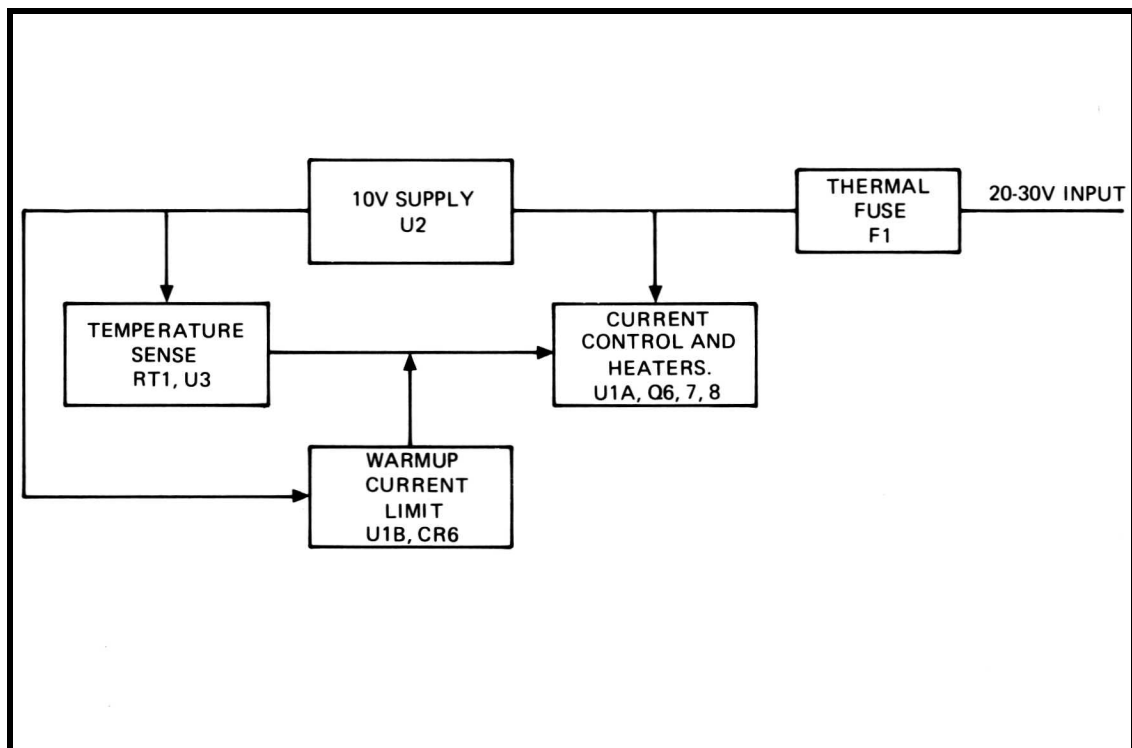

Figure 8-14. Oven Controller Block Diagram
- 8-71. The oven controller section consists of three major circuits and a 10V voltage reference for increased stability of sensitive circuits. Figure 8-14 shows the major circuits and active components involved in their operation.